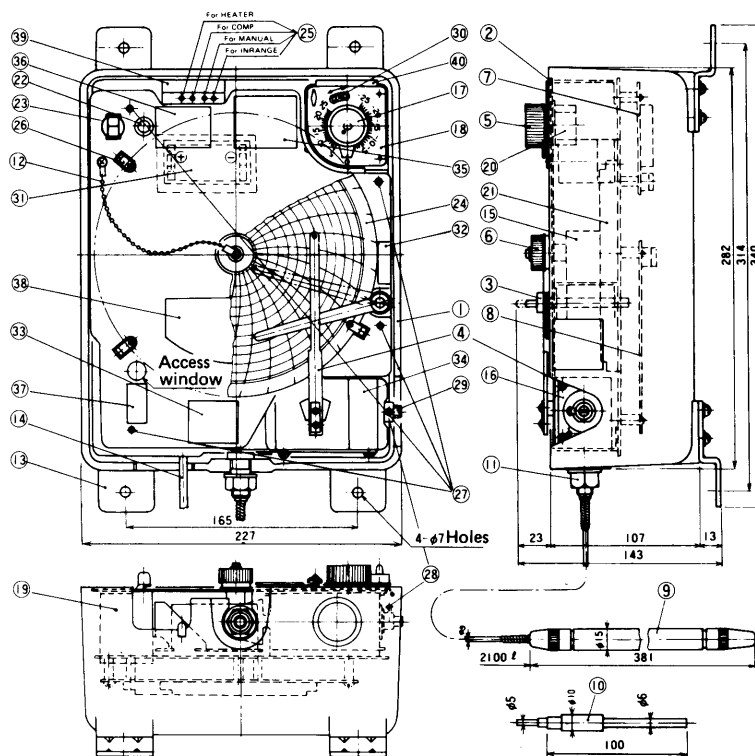

Fig. 1 Structure
- External wiring (Wiring from the devices in the control box to the unit to Terminal 21 in Fig. 1)
(2) Recording part